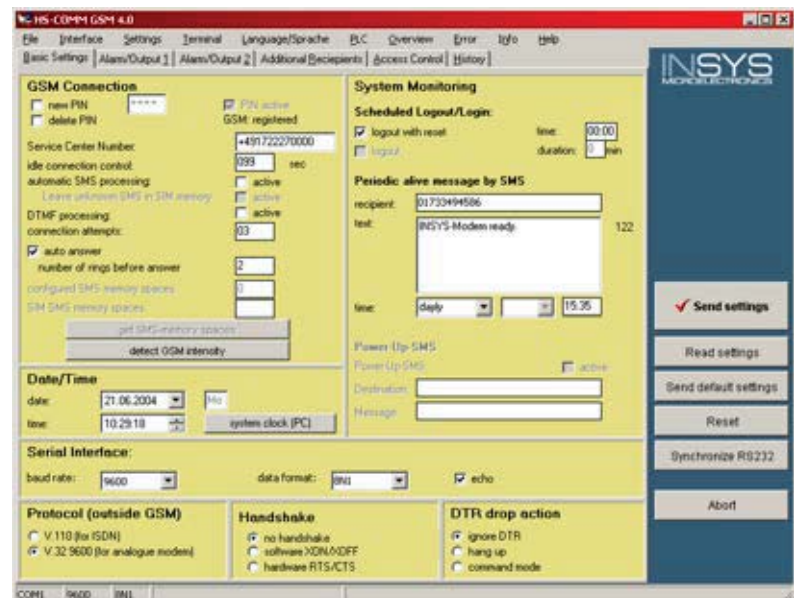

Fig. 196: GSM modem - basic settings
- Set up the modem as shown in (Fig. 196) on the “Basic Settings” tab.